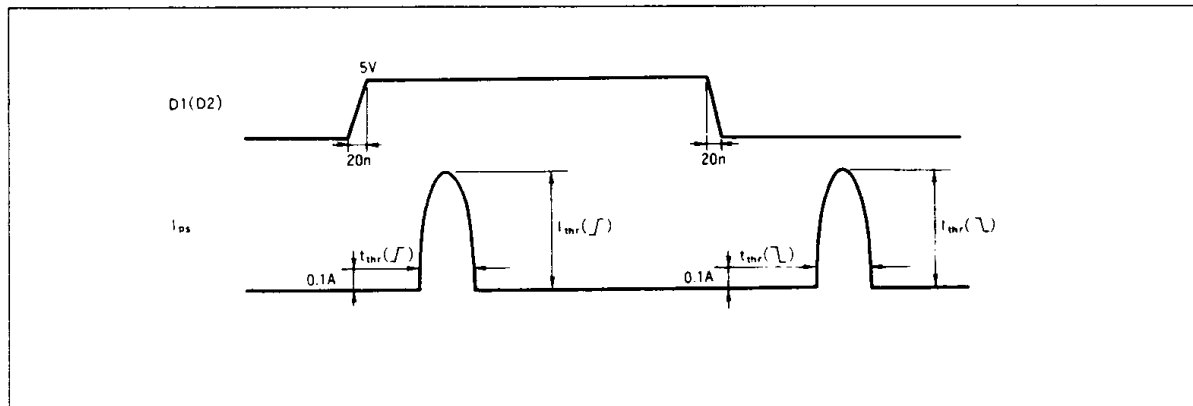

Figure 2 Through Current
4. See figure 2. Clock at either D1 or D2.